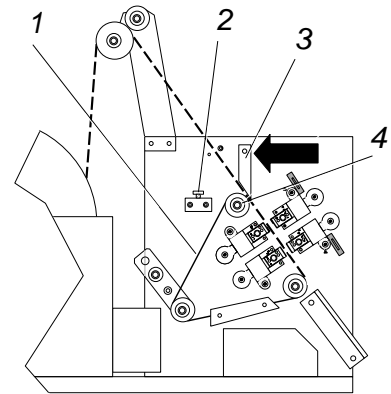

Figure 16 Align & Load Components
A variance requires readjusting component alignment with die stations — a simple matter of repositioning a pulley (Figure 16, Item 4).
2. Loosen bolt in drive pulley (Figure 16, Item 4) with supplied 3/16" wrench.
1. Press down on component tape pressure plate lever (Figure 16, Item 3) to lift plate and open component tape pathway.
1. Close and lock safety shield in place with safety shield lock (Figure 16, Item 2).